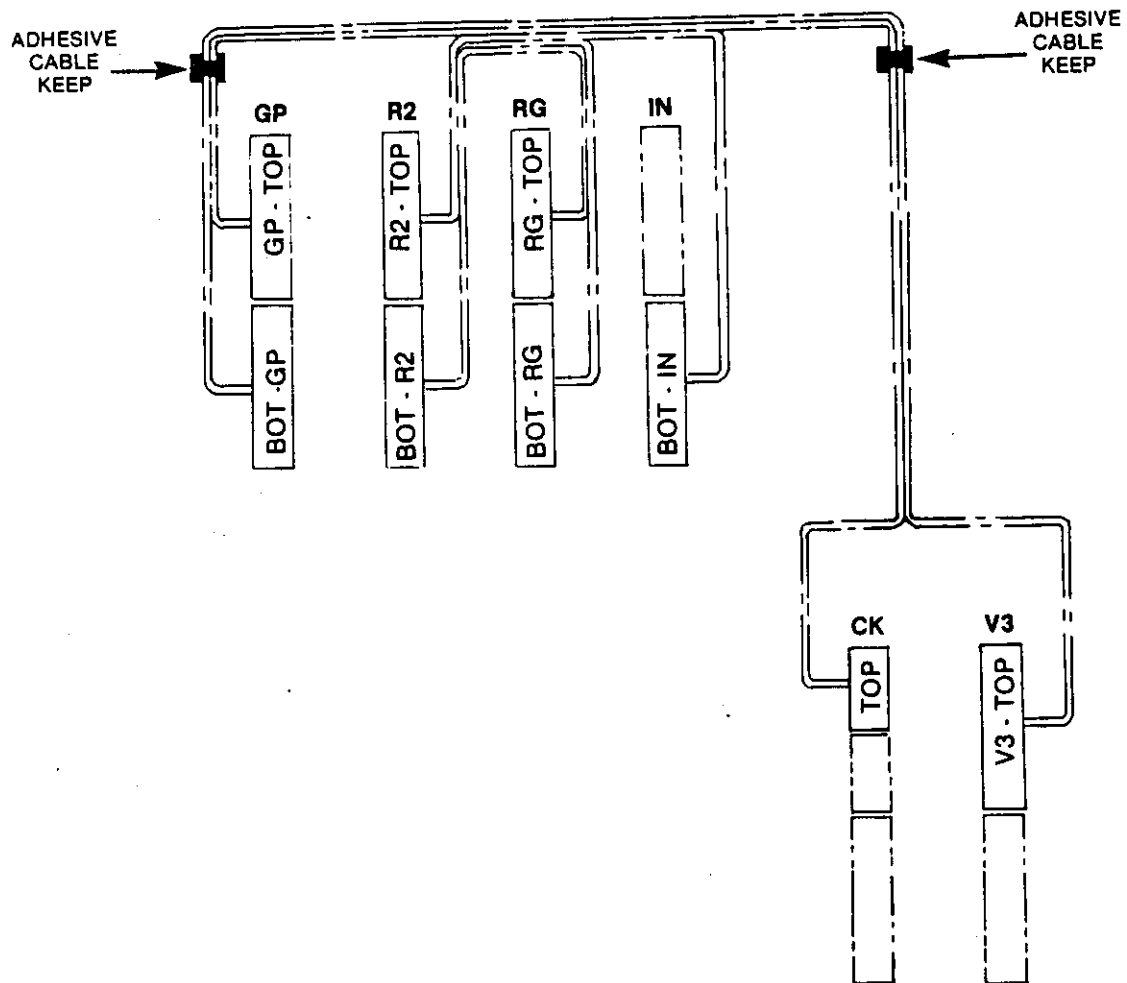

FIGURE 7 - PLACEMENT OF THE ERHS-3 HARNESS CONNECTORS ON THE EKSU BACKPLANE
4.2 As shown in Figure 7, place the female ERHS-3 connectors on top of the appropriate EKSU male connectors. Press gently but firmly into place.
4.3 Secure the loose wires of the ERHS-3 harness running to the ECKU and EVCU connectors, at the top of the EKSU rear panel as shown in Figure 7. Use one of the adhesive cable keeps provided.